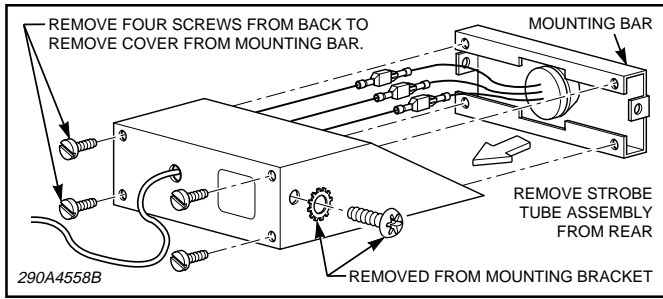

Figure 5.
- See figure 5. Remove and retain the screws which secure the back cover to the mounting bar.